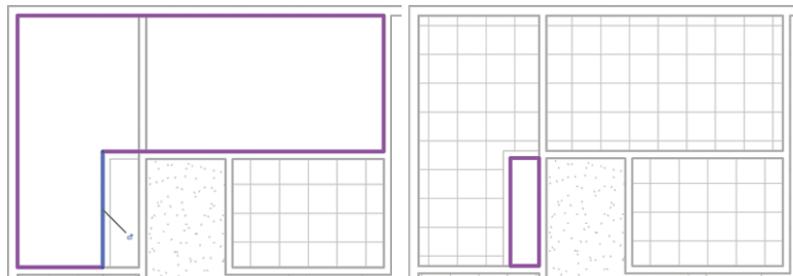

FIGURE 3.35 Editing the boundary
2. The easiest method to edit a ceiling is to select a grid line and choose Edit Boundary from the Mode panel on the Modify | Ceilings tab. Modify the ceiling as shown in the first image in Figure 3.35.
3. Sketch a new GWB ceiling that is 9'-0" (2700 mm). The second image in Figure 3.35 shows the final ceiling shape before you will click Finish Edit Mode.